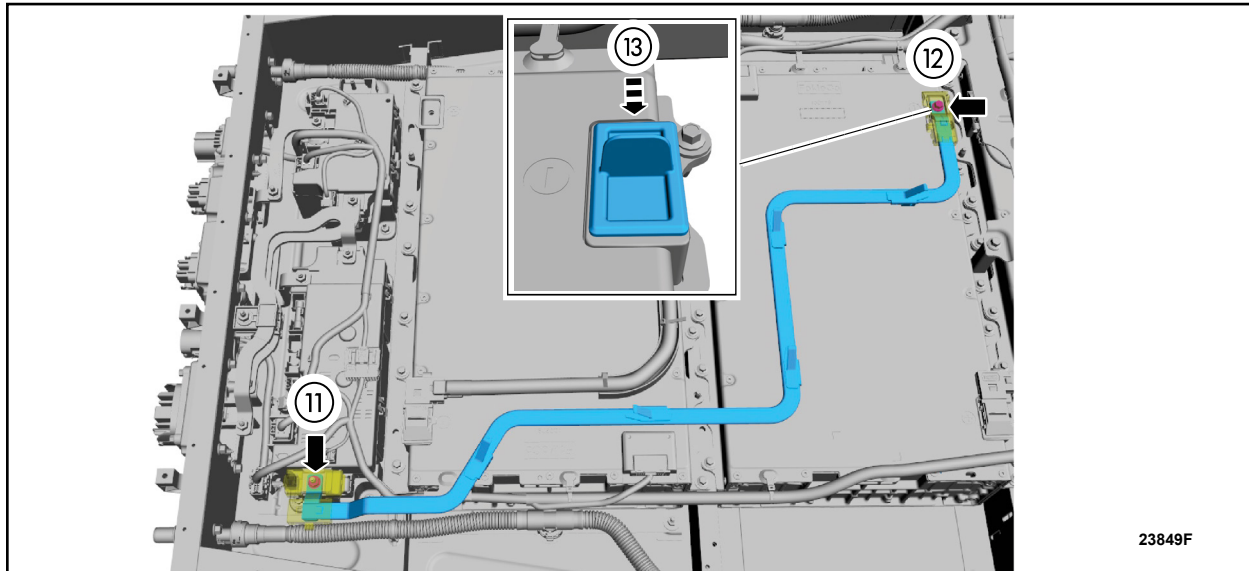

FIGURE 6
12. Open the terminal cover and remove the bus bar nut. See Figure 6.
13. Open the terminal cover, remove the bolt and the bus bar. See Figure 6.
14. Install the battery module terminal cover. See Figure 6.